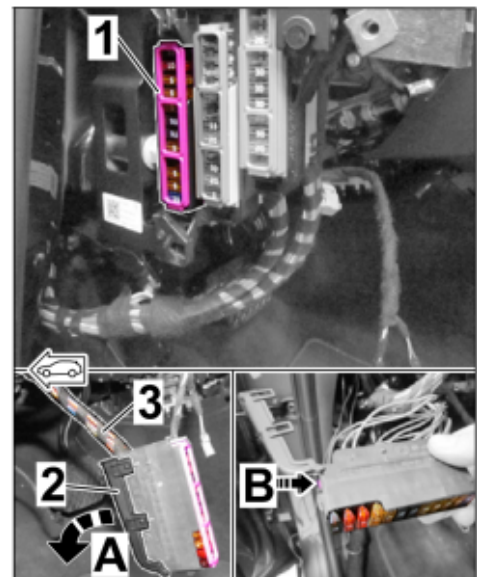

Figure 32
2.6.2 Release fuse strip A (black) using a screwdriver and remove it by pulling it to the rear and out of the fuse carrier (A-pillar area) (⇒ Figure 32).
Release cover (⇒ Figure 32 -2-) on fuse strip A (black) at both sides and remove it.
Open secondary lock on fuse strip A (black) (⇒ Figure 32 -B-).
2.6.3 Remove wrapping tape from standard wire harness (⇒ Figure 32 -3-).